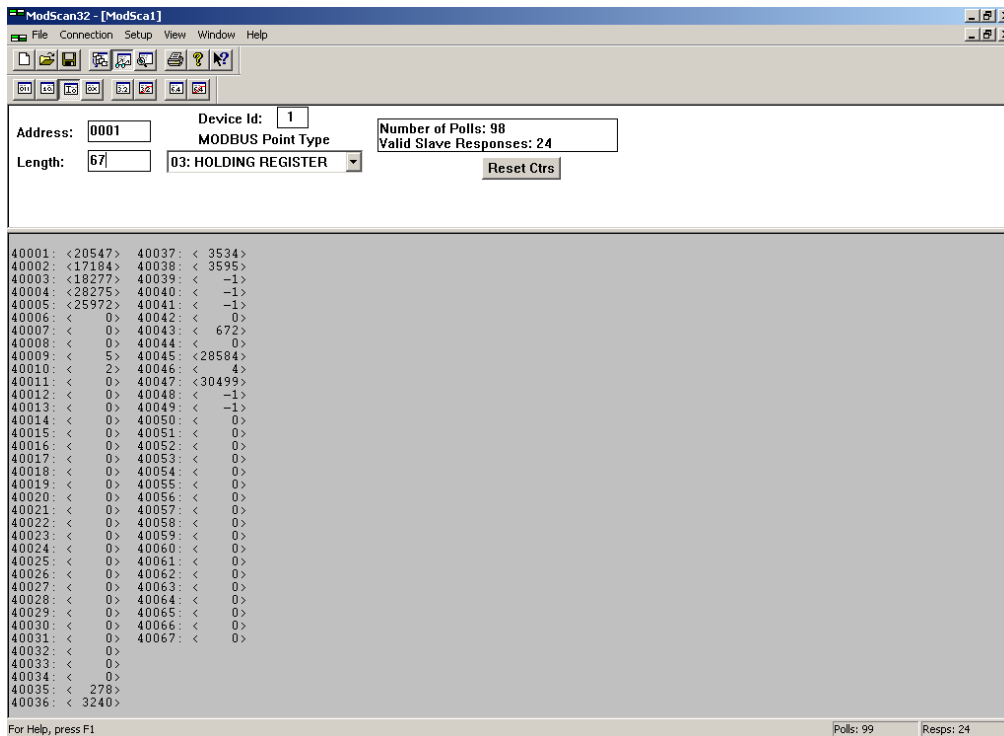

FIGURE 18. MODBUS POINT TYPE = HOLDING REGISTER
5. On the main ModScan screen (see Figure 18), Change the Address to 0001, the Length to 49 (ModLon Mapping Template 1 or 65 (ModLon Mapping Template 2, ModLon Mapping Template 3), and the Device ID to 1. From the MODBUS Point Type pull down menu, select "03: HOLDING REGISTER."